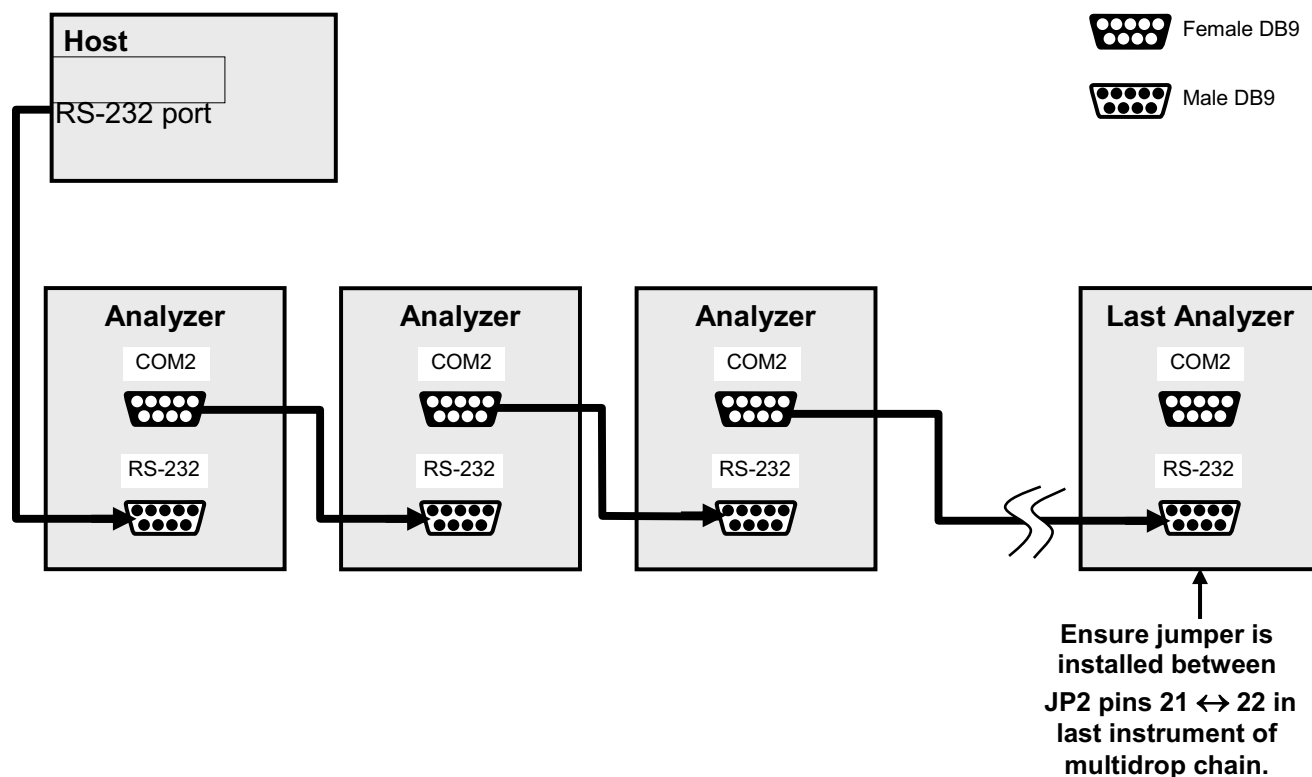

Figure 3-16: RS-232-Multidrop PCA Host/Analyzer Interconnect Diagram
5. Referring to Figure 3-16 use straight-through DB9 male → DB9 female cables to interconnect the host RS232 port to the first analyzer's RS232 port; then from the first analyzer's COM2 port to the second analyzer's RS232 port; from the second analyzer's COM2 port to the third analyzer's RS232 port, etc., connecting in this fashion up to eight analyzers, subject to the distance limitations of the RS-232 standard.